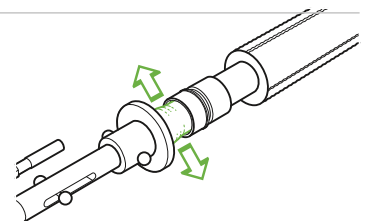

Fig. B10.3.3
6. Expand the pipe end with the use of the hydraulic pump. Hold the expanded head inside the pipe for 1-2 min to ensure correct plastic deformation (Fig. B10.3.3).